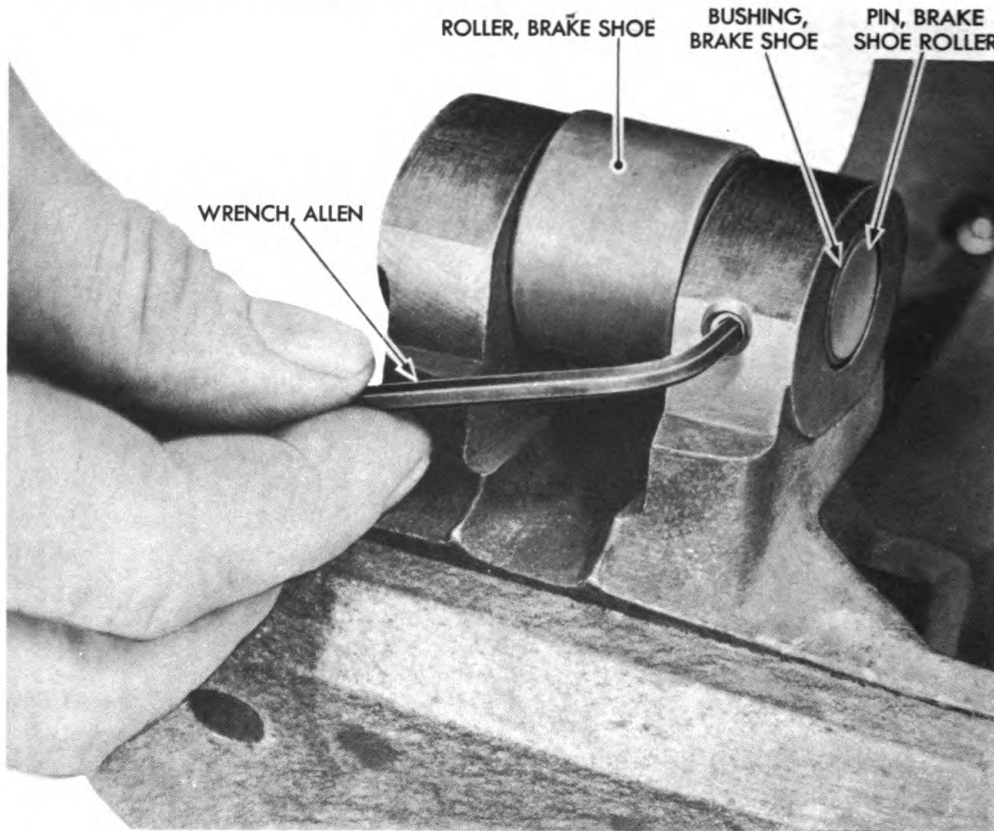

Figure 9—Removing Brake Shoe Roller
(3) DISASSEMBLE BRAKE SHOES AND LININGS (fig. 9).
- (c) Remove brake shoe roller pin set screw (socket head set screw wrench) (fig. 9).